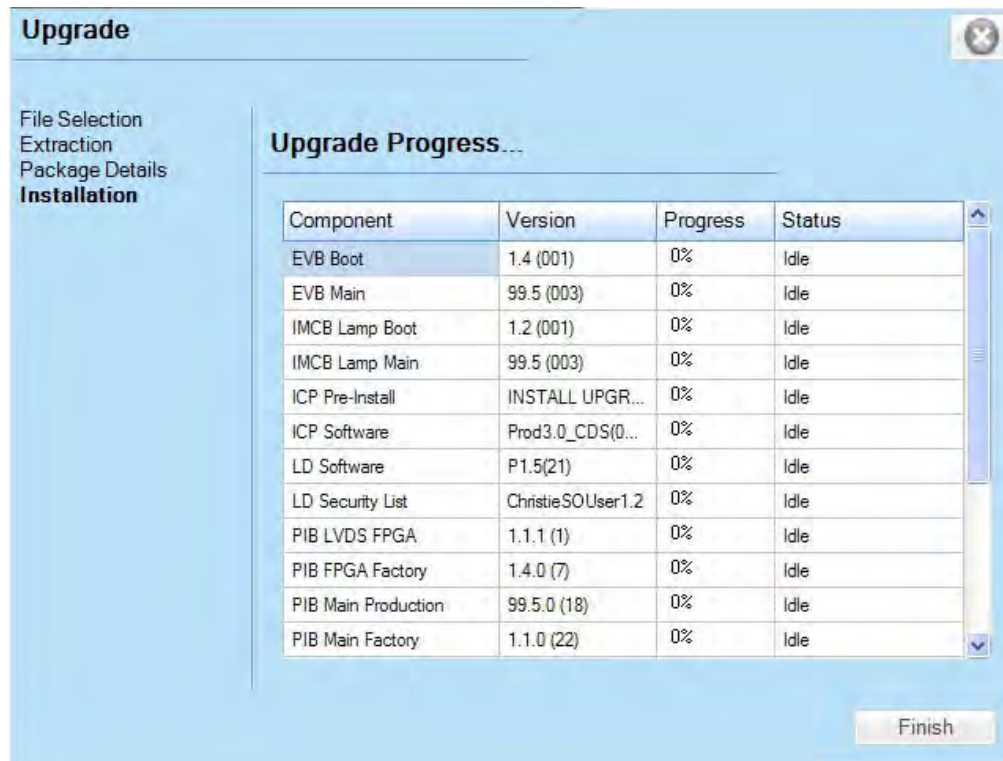

Figure 3-18 Upgrade: Installation Window
4. The **Installation** window displays the state of the upgrade progress. (**Figure 3-18**). On successful completion or failure of the installation, a dialog will display indicating the state of the upgrade. Tap the **OK** button. At this point, the TPC will reboot in order to install the TPC user interface software. The TPC will shut down, reboot, and display an install progress window as the user interface is installed. Once complete, tap the **Finish** button to return to the **Main** panel.